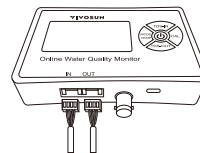

Figure 1
2. The end of the sensor with the terminal should be inserted in the position marked IN/OUT under the instrument according to the direction. (Figure 1)